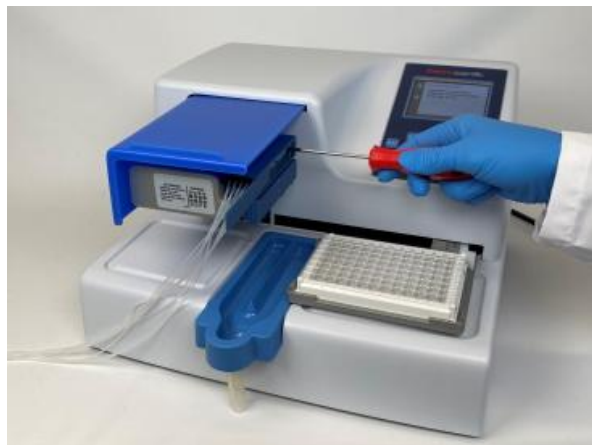

Figure 6–59. Calibration screw cover open
1. Install the dispensing cassette (Figure 6–57).
6. Open the calibration screw cover (Figure 6–60) on the upper part of the cassette.
12. Weigh the filled microstrip (Figure 6–60). The balance should now read 100 mg ± 5 mg (small tube cassette)/1000 mg ± 20 mg (standard tube cassette).